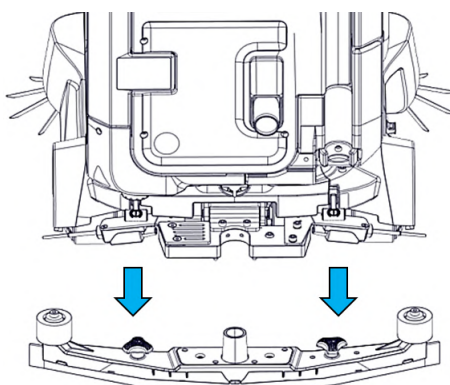

FIGURE 11-5
3. Place assembly on a flat surface (**Fig. 11-5**).